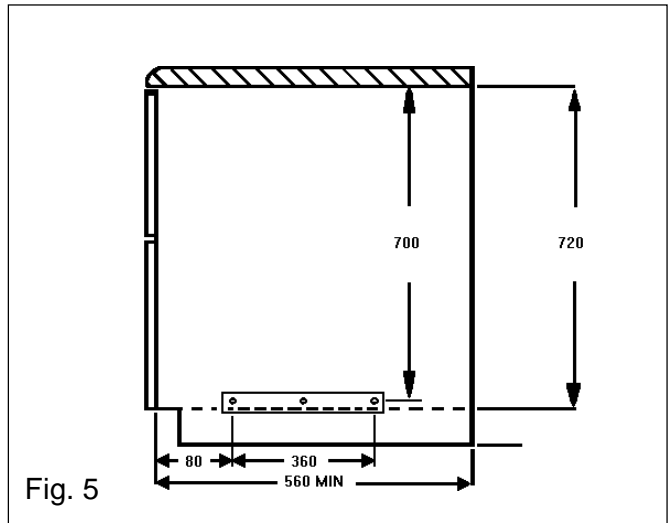
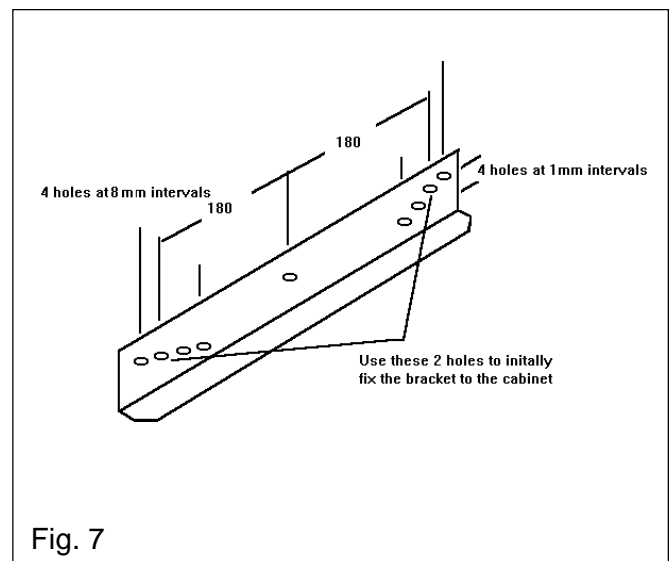

Fig. 5
Fig. 7
- Make sure the space between the cabinets is the correct size for the appliance to be fitted (Ref. Fig. 5 & 6).
- Drill two pilot screw holes into the sides of the adjacent cabinets, in the positions indicated by Fig. 5.
- Fit the appliance mounting brackets using the two holes indicated in Fig. 7 to the adjacent cabinets (Ref. Fig.5 & 6)